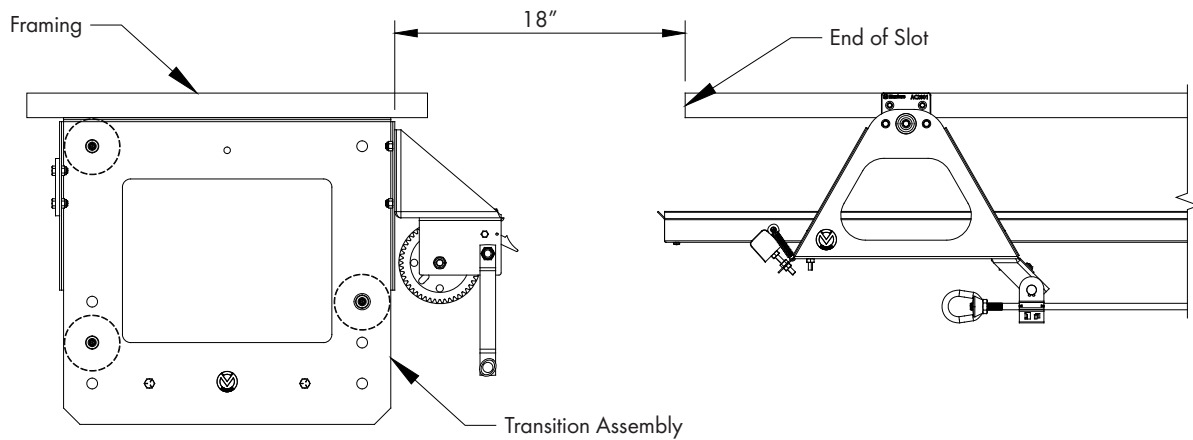

Figure 22A
Mount the Transition Assembly to the framing so the pulley end of the Transition Assembly is 18" from the end of the slot and centered on the slot. Secure the Transition Assembly using (8) KS2462 Lag Screws [XX]. See Figure 22A & 22B.